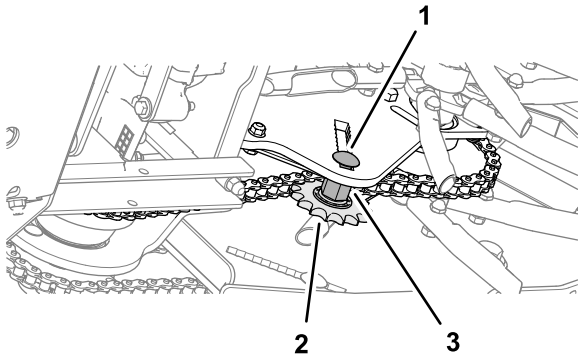

Figure 59
- To adjust the chain tension, loosen the idler bolt and threaded spacer, and push up on the sprocket to tighten the chain (Figure 59).